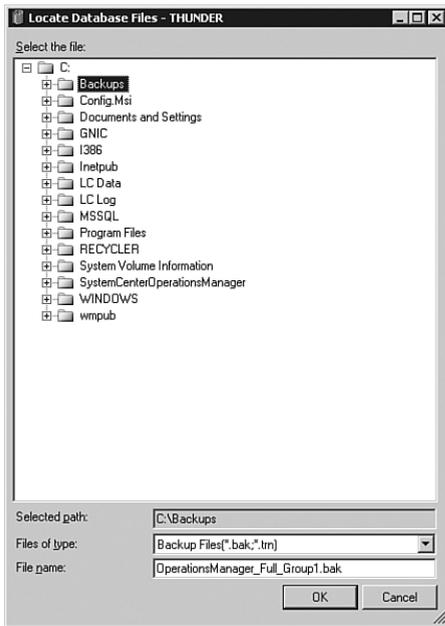

FIGURE 12.5 The backup device location screen.
3. Select Add under Destination. The wizard provides a default location of *%ProgramFiles%\Microsoft SQL Server\MSSQL.1\MSSQL\Backup*. To enter the location and filename where the backup will be stored, click on the button with the ellipses (...) and name the file OperationsManager_Full_Group1.bak. In this case, we are using a folder named C:\Backups, rather than the default folder. Figure 12.5 shows the location specified for the backup file.